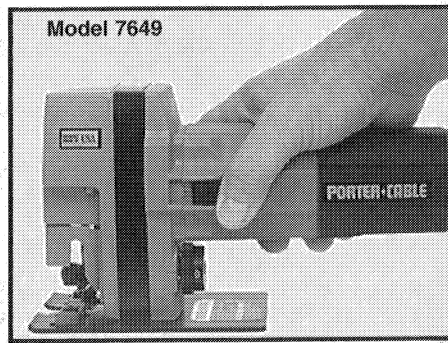

Fig. 10
**WARNING:** When cutting into a wall avoid contact with all exposed metal on the tool to prevent electrical shock hazard resulting from accidentally cutting into a live wire. HOLD SAW AS ILLUSTRATED IN FIG. 10.